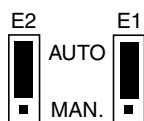

FIG. 2 Automatic mode settings
- For automatic mode (FIG. 2), place the 2-pin jumper on the E1 connector pin's one and two. Repeat for the E2 connector.